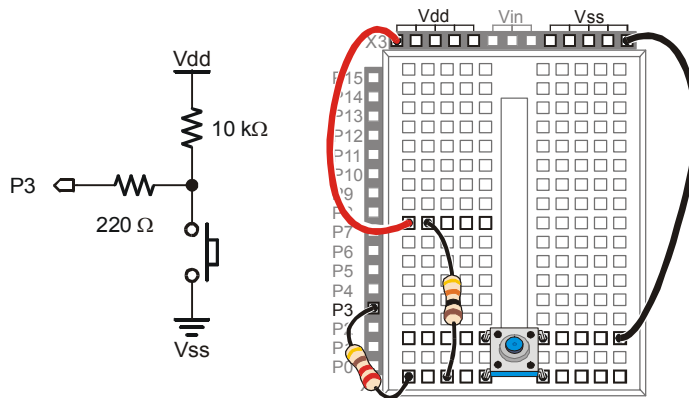

Figure 3-9
The circuit you just finished working with has a resistor connected to Vss. This resistor is called a pull-down resistor because it pulls the voltage at P3 down to Vss (0 volts) when the button is not pressed. Figure 3-9 shows a pushbutton circuit that uses a pull-up resistor. This resistor pulls the voltage up to Vdd (5 volts) when the button is not pressed. The rules are now reversed. When the button is not pressed, **IN3** stores the number 1, and when the button is pressed, **IN3** stores the number 0.
- ✓ Modify your circuit as shown in Figure 3-9.
Active-low vs. Active-high: This pushbutton Figure 3-9 is called active-low because it sends the BASIC Stamp a low signal (Vss) when the button is active (pressed). The pushbutton circuit in Figure 3-6 the main activity is active-high because it sends a high signal (Vdd) when the button is active (pressed).